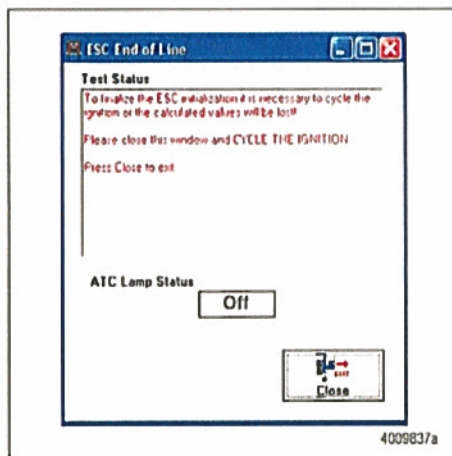

Figure 18
5. Read the message box and follow the instructions very carefully. Click "Close" and Cycle the Ignition. Figure 18.